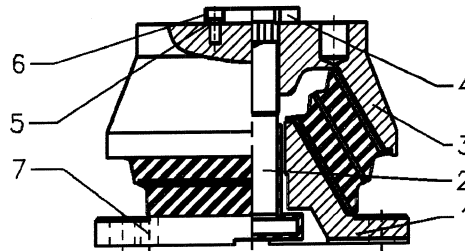

Fig 1. Conical element
1. Fit the conical elements to the bracket of the suspended equipment by means of four bolts screwed into the tapped holes on the top casting(5), see fig 1.
2. Remove fixing bolts(6), spring washer(5) and top lock ring(4) from the conical element, see fig 1.
8. Turn the internal buffer(2) to check that it can be moved freely,see fig 1.